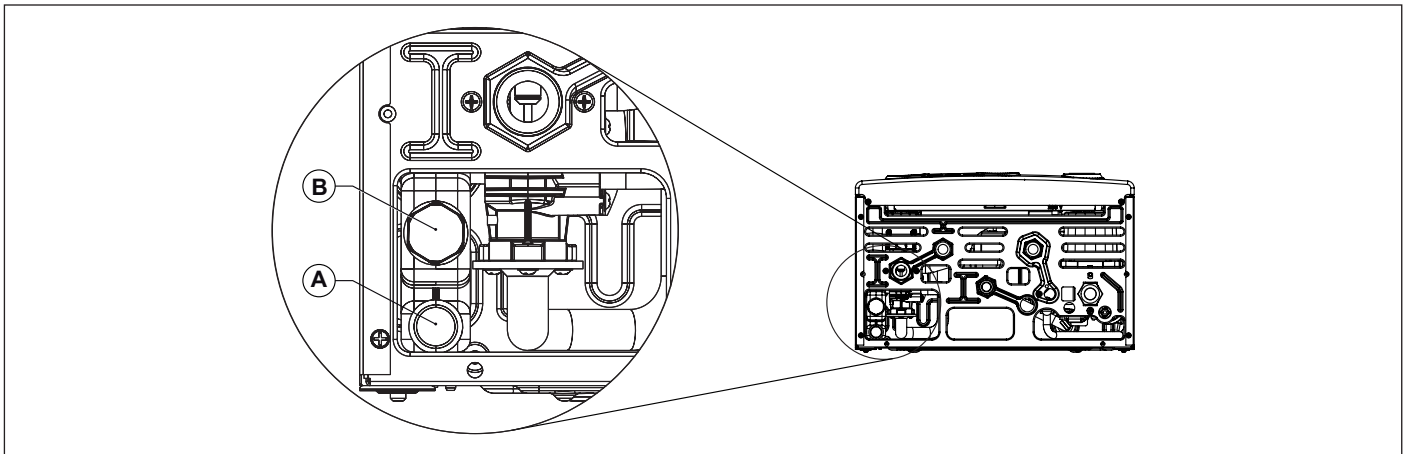

Fig. 17 Condensate drain
Condensate drain system must be connected to specific fitting (A) in the boiler (see Fig. 17 Condensate drain).